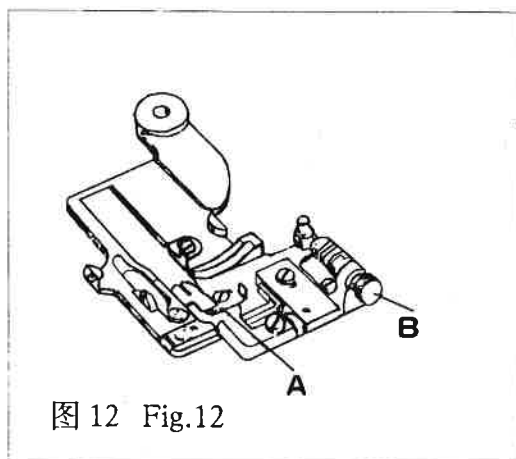
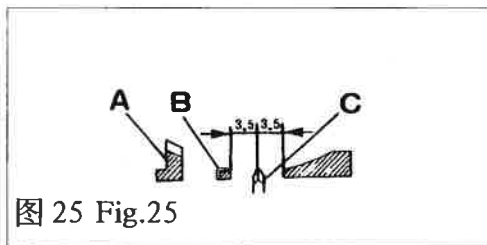
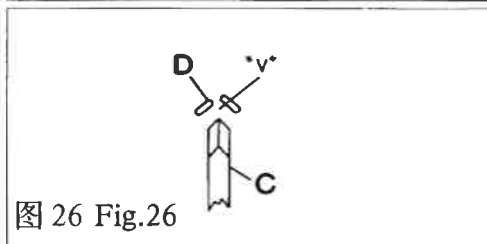

图 12 Fig.12
图 25 Fig.25
图 26 Fig.26
3. Regulation of the pressure of materlal retainer(Fig.12)
(1) 左右位置 抬料轮“C”的中心位置应与针板“A”上的压料板槽中心位置重合(图25);压料板“D”的V形槽中心位置与抬料轮“C”中心位置重合(图26)。
①首先旋松紧定螺钉“C”，转动顶尖螺钉“B”，使抬料轮调节杆“A”无轴向窜动，但又能灵活摆动，然后将紧定螺钉“C”旋紧。
②旋松卡圈“D”的锁紧螺钉“E”及曲柄“F”的锁紧螺钉“G”后将抬料轴左右移动，使抬料轮处于标准位置(图 25)时将锁紧螺钉“E”及“G”旋紧，并应保持抬料轴无轴向窜动，但能灵活摆动，且与左右压脚板互不相碰。
③旋松压料板螺钉“A”，左右移动压料板“D”(图 12)使压料板V形槽中心与抬料轮中心重合(图 26)时，旋紧压料板螺钉。
(1) The left and right position.
The centre of the ridge forming disc “C” coincides with the centre of material retainer groove on needle plate “A”(Fig.25); the centre of “V” groove of material retainer “D” coincides with the centre of ridge forming disc “C”(Fig.26).
①Loosen set screw “C” and turn pointed screw “B” to secure that the ridge forming disc regulating lever “A” swings nimbly and is kept from having axial play, and tighten set screw “C”.
② After loosening lock screw “E” of collar “D” and lock screw “G” of crank “F”, move the ridge forming disc leftward or rightward to set the ridge forming disc in a position required (Fig.25), tighten lock screw “E” and “G”. Make sure that the ridge forming disc shaft shall be kept from having axial play and swing nimbly. The ridge forming disc shaft shall not come into contact with either the left presser foot or the right one.
③ Loosen material retainer screw “A”, move material retainer “D” (Fig.12) leftward and rightward to make the centre of “V” groove on material retainer coincides with the centre of the ridge forming disc (Fig.26). Tighten material retainer screw.